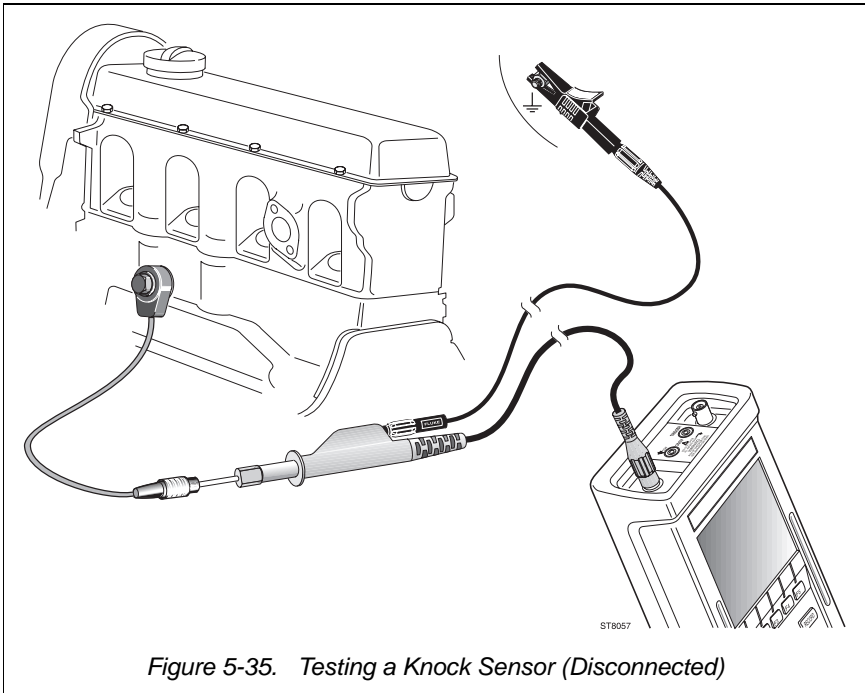

Figure 5-35. Testing a Knock Sensor (Disconnected)
- ③ Connect the test leads as displayed by the test tool's Connection Help and shown in Figure 5-35.
- ④  Starts the Knock Sensor test.